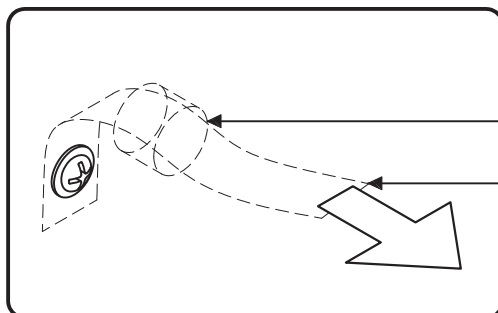

Figure 8
Move unit back into place and insert Tip-over Restraint into unit through hole in Back Panel (N). (See Figure 8)